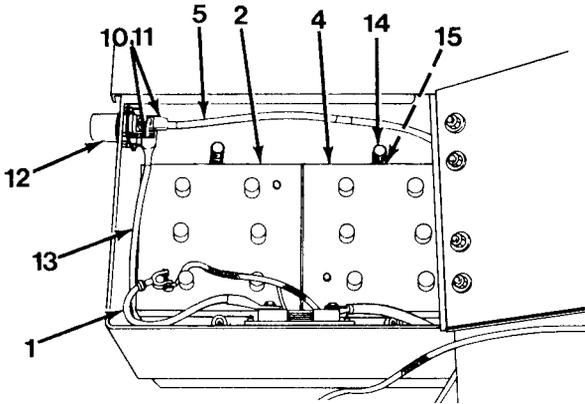
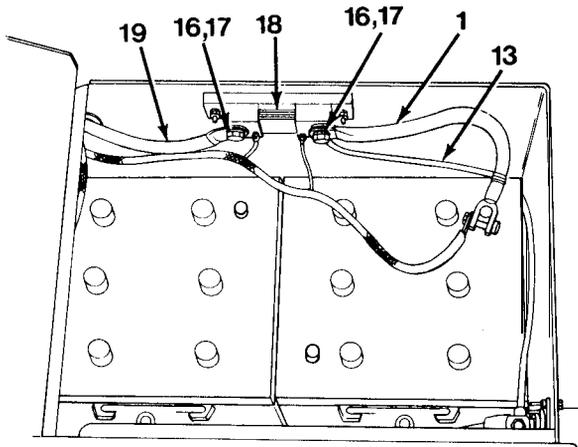

Figure 10-9
Figure 10-10
12. Install four bolts (14) and O-rings (15, Figure 10-9).
13. Install batteries (4) and (2) into battery compartment.
14. Install cables (13) and (1), washer (17) and capscrew (16) to shunt (18, Figure 10-10).
15. Connect cable (13) and install two washers (11) and capscrew (10) to slave receptacle (12, Figure 10-9).
16. Connect cable (5) and install two washers (11) and capscrew (10) to slave receptacle (12).